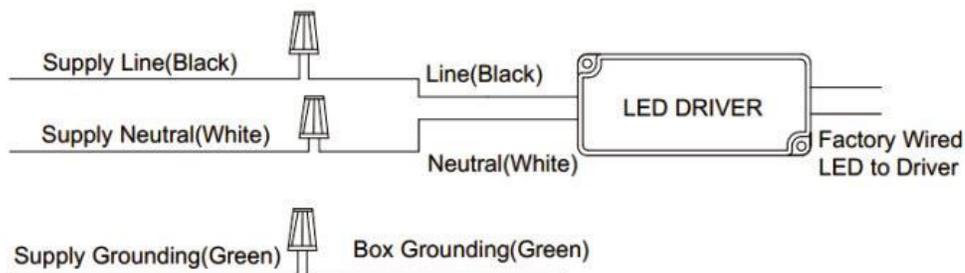

Figure 4: Wiring Instructions
- Connect the wires properly in the junction box. See Figure 4.
- Connect the wires properly from the wiring access. See Figure 4.